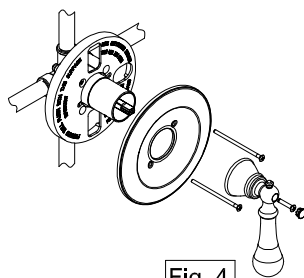

Fig. 4
- Install the handle assembly (see Fig. 4).